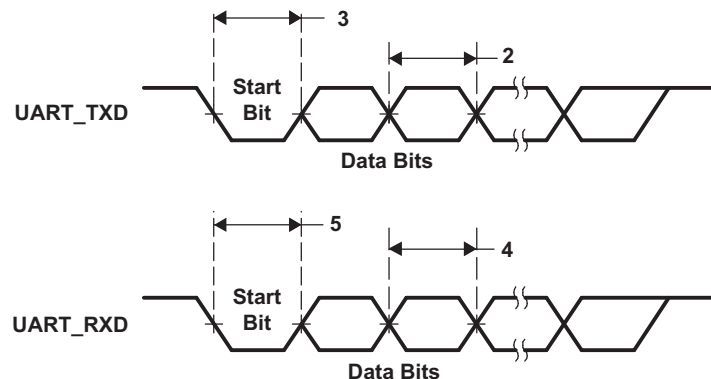

Figure 6-28. UART Transmit/Receive Timing
Table 6-29. Timing Requirements for UART Receive⁽¹⁾⁽²⁾ (see Figure 6-28)
- (1) U = UART baud time = 1/programmed baud rate.
- (2) These parametric values are measured at DV_{DDIO} = 3.3 V, 2.75 V, and 2.5 V
Table 6-30. Switching Characteristics Over Recommended Operating Conditions for UART Transmit^{(1) (2)} (see Figure 6-28)